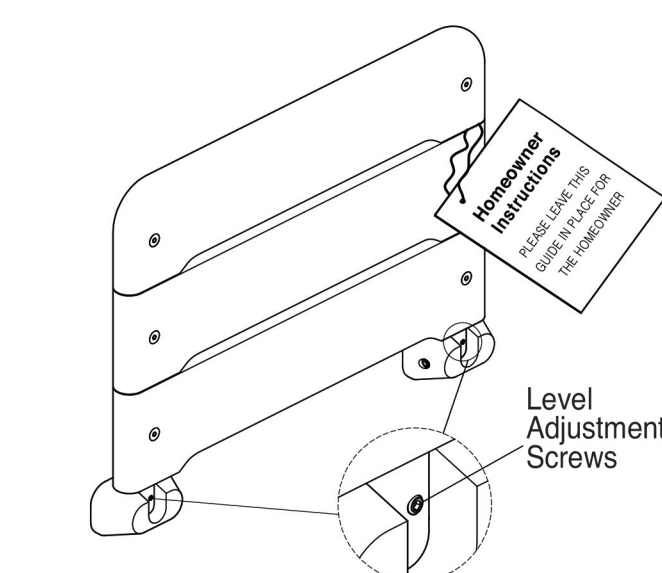

Fig. 5 Level WallSeat
15. If the seat is not parallel to the floor when it is in the lowered or seated position use the level adjustment screws to adjust the mounted Wall Mounted Folding Seat. An Allen wrench is provided for this purpose (See figure 5). Adjust both level screws so the Wall Mounted Folding Seat is even and it contacts both brackets at the same time.
17. The Wall Mounted Folding Seat has instructions for the homeowner attached to the Wall Mounted Folding Seat. DO NOT REMOVE THESE INSTRUCTIONS. These instructions contain important information for the homeowner. See figure 5.